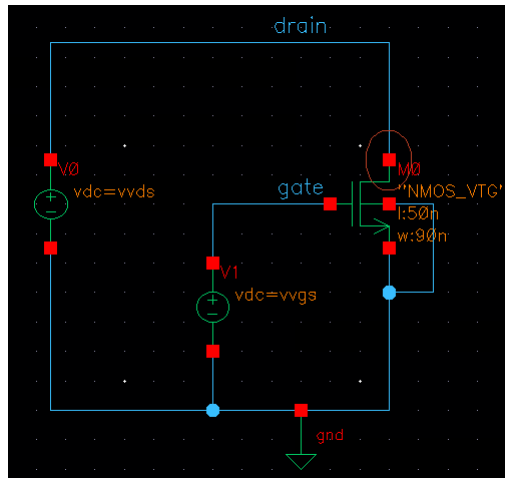

Figure 24: Schematic view with selected output
- If you have correctly completed all the steps so far, you will notice that there’s a circle highlighting the NMOS drain node in your schematic (see Figure 24). This means the simulator will plot current going through that node.